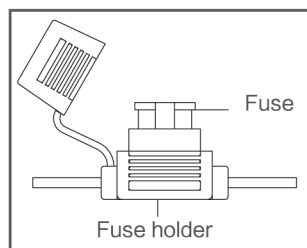

Figure 26
- If there is no power signal after pressing the power button on the controller, first check whether the power switch on the battery box is in the "I" position; if it is in "O" position, shift the power switch on the battery box to "I" position; At this time, if there is still no power signal when pressing the power button on the controller, the current might be overloading and the fuse is blowout. In this case, the fuse should be replaced. Note: The fuse is only used on the lead-acid battery and is located in the left battery case(see Fig.26). Please turn off the power source when changing the fuse. If the storage battery is a lithium battery, first shift the power button from "I" position to "O" position,and then to "I" position owing to the fact that the lithium battery will cut off the power when it is over - loaded.